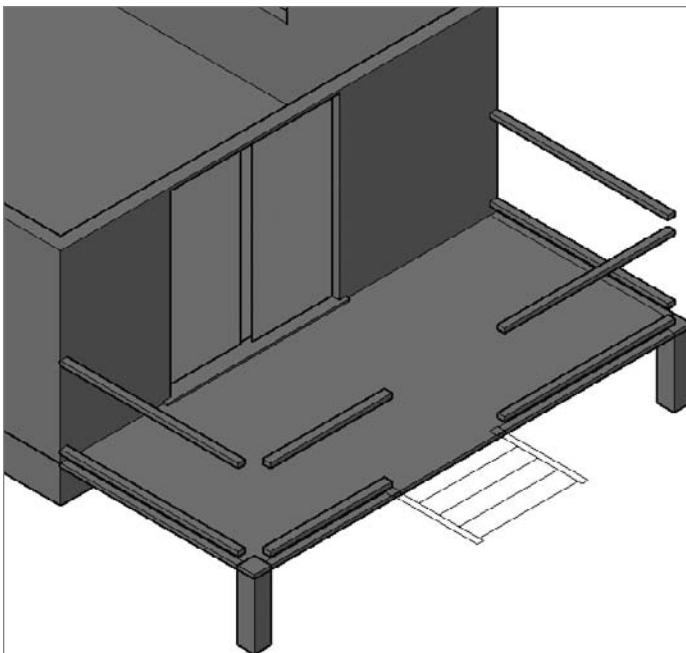

FIGURE 16.55 The railings in place and adjusted for size
4. Repeat the process to create the two sets of railings at the front of the deck, on the left side of the stairs; then copy both sets to the opposite side of the deck. Switch to the right and top views with the ViewCube to check your work, adjust the size of the railings on the right side of the steps, and then use the Zoom Previous command (**Z.J P.J**) to return to the current view (see Figure 16.55).